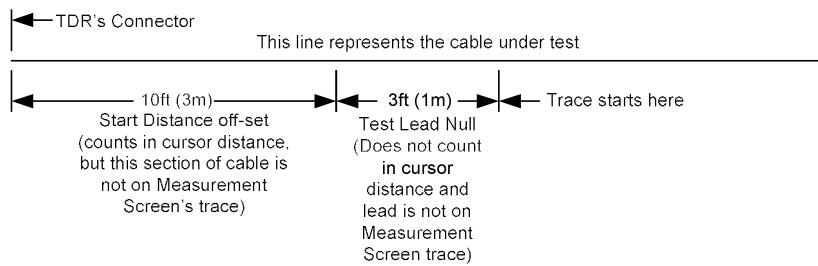

Figure 3-56
2. If Start Distance other than zero is entered and Test Lead Null is turned ON at the same time, the Test Lead Null will take effect after the Start Distance (offset). Example: With a Range set to 20ft (5m), a Start Distance of 10ft (3m) is entered, and Test Lead Null of approximately 3ft (1m), the display will actually start at approximately 13ft (4m). A cursor placed at the far left of the plot display will show the 10ft (3m) of off-set, but not the 3ft (1m) of Test Lead Null. See figure 3-56.